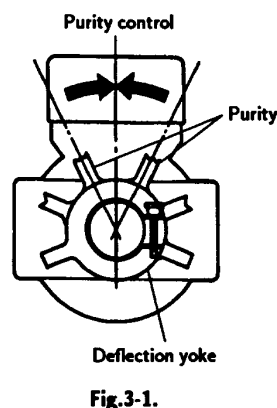

Fig.3-1.
3. Loosen the deflection yoke screws, align the purity adjustment knob to the central position. (See Fig.3-1.)